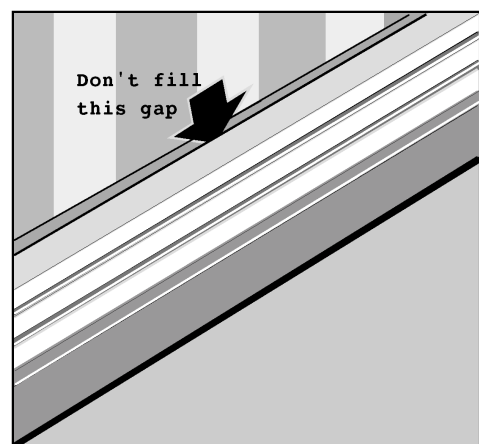

Figure 4 Duct air gap
- The space behind the top back edge of the duct front covers must not be blocked (See figure 4). The space is to allow cooling air to circulate along the ducting run.